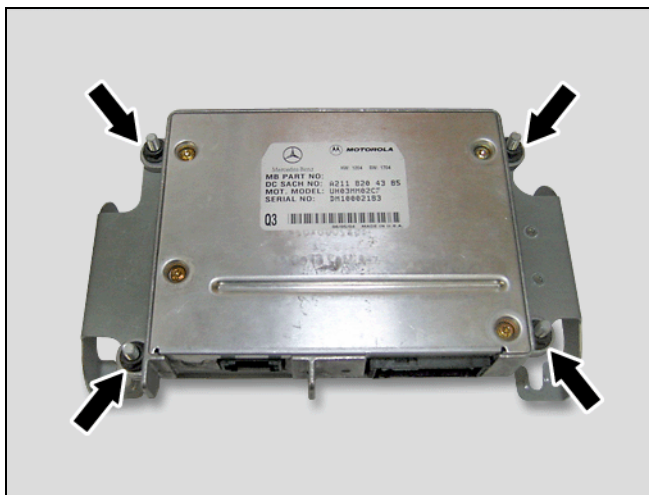

Figure 7
1. Mount the MHI control module to the threaded studs on the bracket front with four 8 mm nuts (Figure 7).